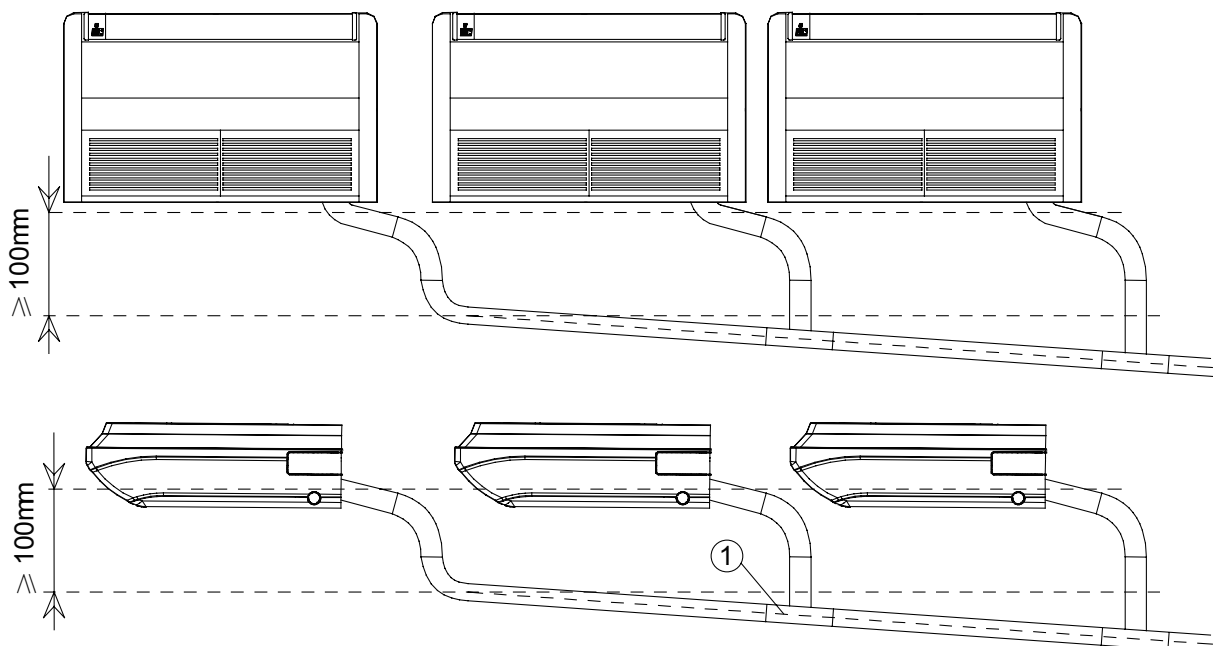

Fig 4.3.2.1
- (1) Drainage pipe should have the same diameter or larger diameter than the connection pipes (PVC pipe, outside diameter 17mm, thickness $\geq$ 1.75mm).
- (2) Keep drainage pipe short and sloping downwards at a gradient of at least 1% for preventing forming air bubbles.
- (3) Insert the drainage hose into drain socket and then tighten the metal clamp securely.
- (4) Warp the sealing pad over drainage hose and metal clamp for heat insulation.
- (5) Make sure to perform insulation work for all drainage hoses in the room in order to prevent any possible water dropping due to dew condensation.
- (6) Apply the suitable diameter for converging drainage pipe according to the operating capacity of the unit, as show in Fig 4.3.2.1.
NO1: Three-way connection of drainage pipe joints (Fig 4.3.2.2)
NO2: Connection of downspout elbow (Fig 4.3.2.3)
NO3: Inserting horizontal pipe connection (Fig 4.3.2.4)
(8) Drainage pipes should have a downward slope of at least 1%~2%, in order to prevent pipes from sagging; install hanger bracket at intervals of 1000~1500mm.
(9) Prepare the local piping at the connection point for the drainage pipe, as shown in Fig 4.3.2.6.